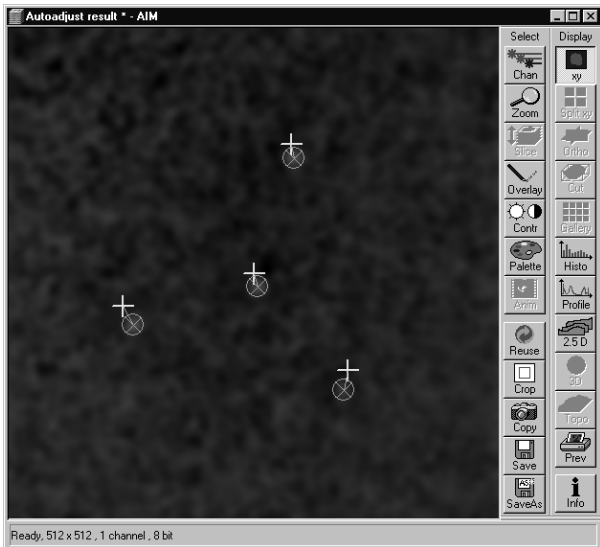
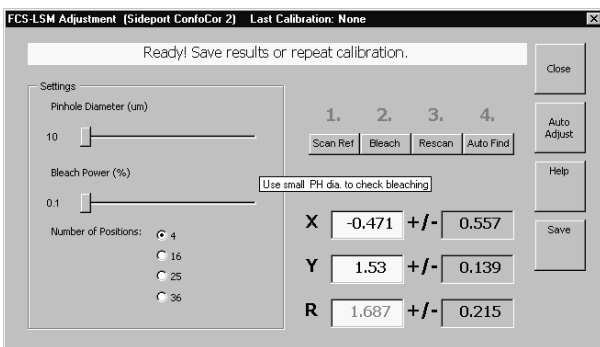

Fig. 5-403 LSM image after performance of the "Fcs-Lsm" Macro
Fig. 5-404 The "Fcs-Lsm" Macro after offset compensation
- Press the **Autoscan** button. Once finished, the **4** will turn black. The program will find the burned spots which will turn red and label them by green circles. The distance between the green circles and yellow crosses is indicated by the green line and the value displayed as the **R** value (see Fig. 5-403). The program also calculates the deviation in X and Y, the values which are also displayed under **X** and **Y** offsets (see Fig. 5-404). The program also calculates the scan drift during the procedure and gives a warning if the scan drift was to great.